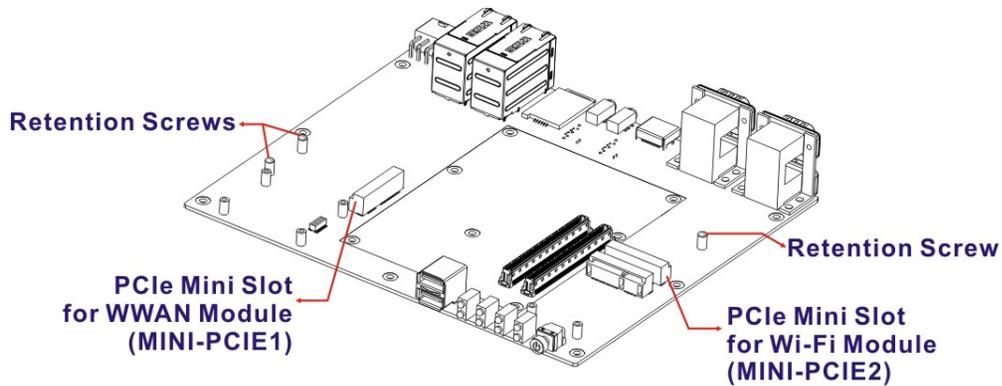

Figure 3-11: WLAN and WWAN Card Slot Locations
Step 3: Locate the half-size PCIe Mini slot for WLAN modules and the full-size PCIe Mini slot for WWAN modules (**Figure 3-11**).
Step 4: Remove the retention screw(s) for PCIe Mini card installation (**Figure 3-11**).